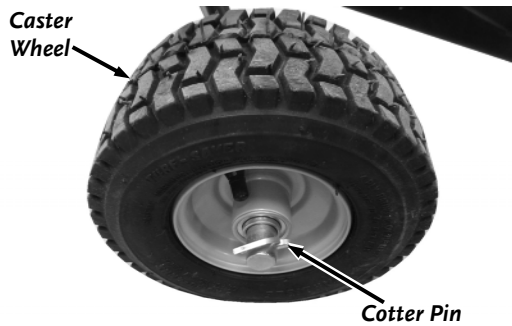

Figure 30
1. Remove the Cotter Pin with Pliers and remove the Caster Wheel Assembly (**Figure 30**).
<p>The Trimmer Head won't spin or lacks power.</p>	<ul style="list-style-type: none"> <li>⇒ Check for proper alignment of the V-Belt. Check it against Figure 30 in the "Replacing the Belt" section on page 17.</li> <li>⇒ The Belt may be worn or frayed; if so, replace it.</li> <li>⇒ If none of the above helps, visit our web site at <a href="http://www.DRPower.com">www.DRPower.com</a> or call 1-800-DR-OWNER (376-9637) for assistance.</li> </ul>